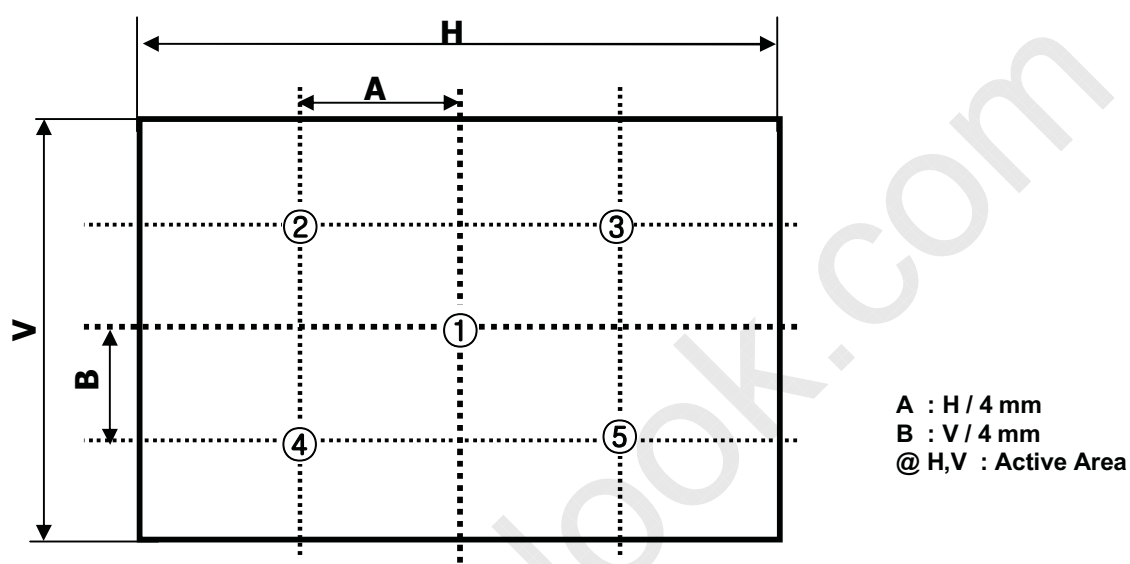

FIG. 2 5 Points for Luminance Measure
- Surface luminance is determined after the unit has been 'ON' and 1 Hour after lighting the backlight in a dark environment at  $25 \pm 2^\circ\text{C}$ . Surface luminance is the luminance value at center 1-point across the LCD surface 50cm from the surface with all pixels displaying white. For more information see the FIG. 2.
For more information, see the FIG. 2.